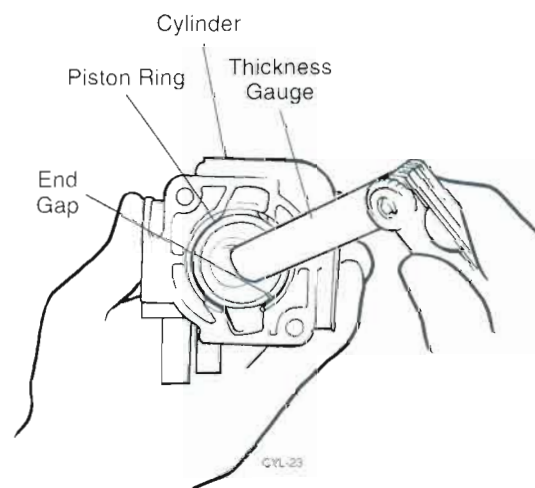

Figure 7.11 Checking Piston Ring End Gap
STEP 3. Use the piston crown to squarely locate each ring approximately midway in the cylinder bore, and then use a thickness gauge to measure piston ring end gap. If either ring's end gap is greater than tolerances listed in the Appendix, replace both rings as a set (Figure 7.11).